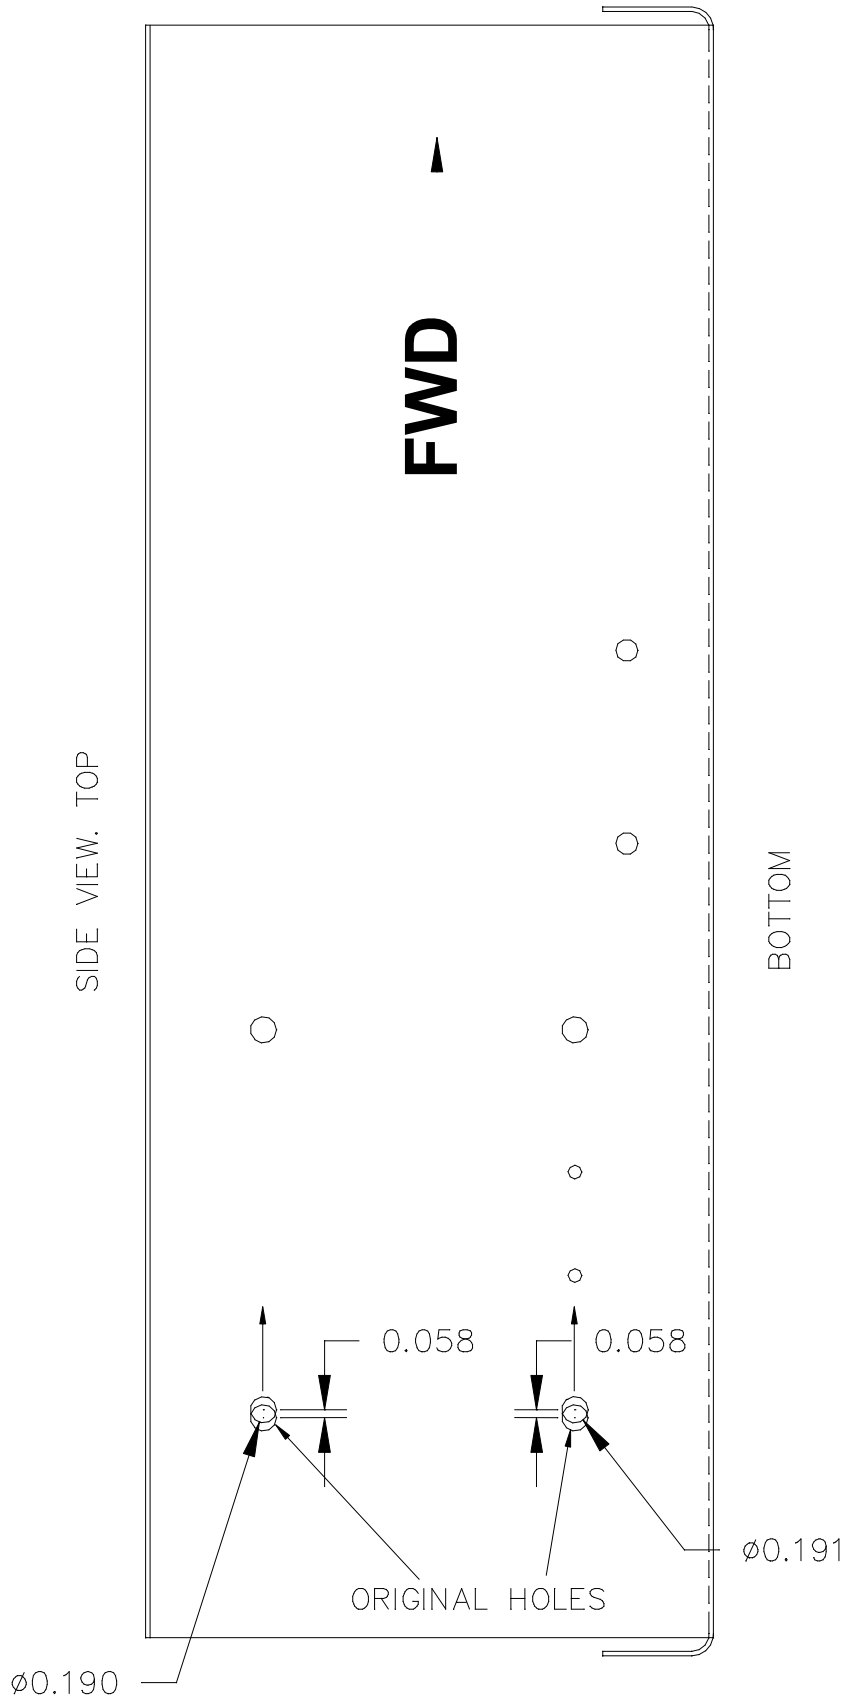

Figure 4 – Side view of unmodified solenoid box (Starter and Bus 1 solenoids).
- 1.3.5 De-rivet the anchor nut retainer as indicated by arrows in Figure 4. This is on the inboard side of the solenoid box.
- 1.3.9 Replace retainer with Item 2 using rivets Item 7. Orient rivet heads to the outside of the box as shown in Figure 4. Note that Item 2 is **not** symmetric about the rivet holes and correct orientation must be confirmed before riveting.